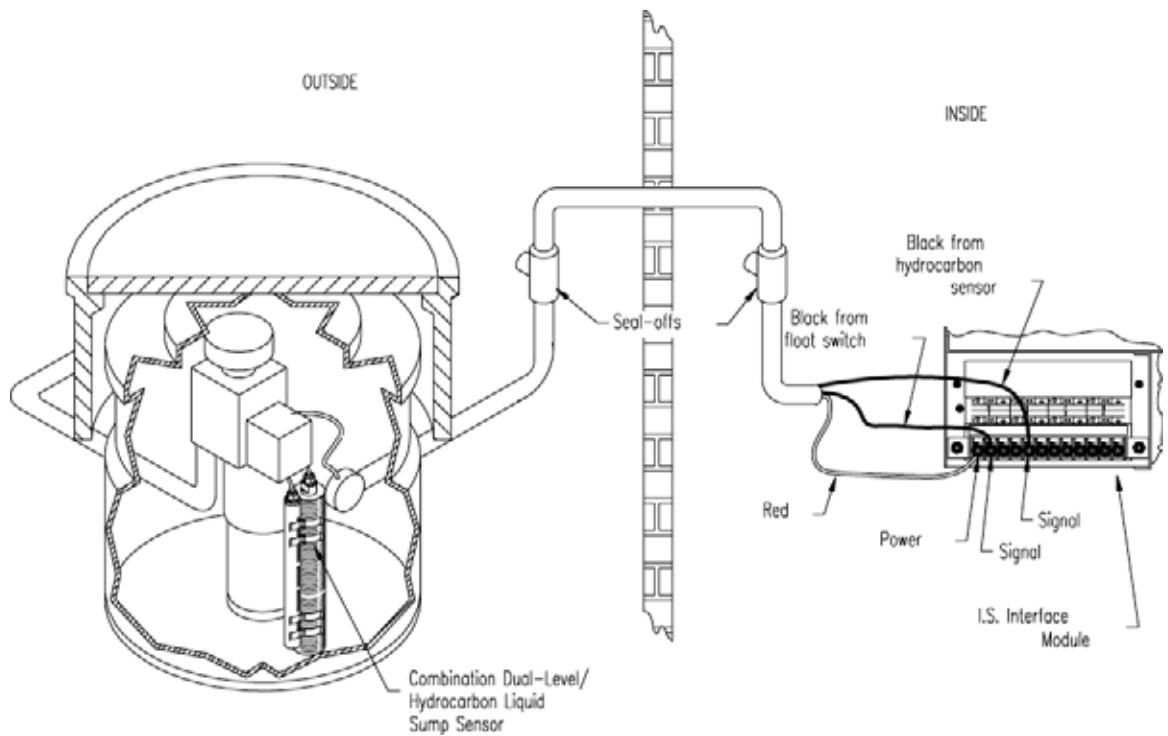

Figure 27: Combo Dual-Level & Hydrocarbon Liquid Sensor Installation
- Review Figure 27 on page 84.